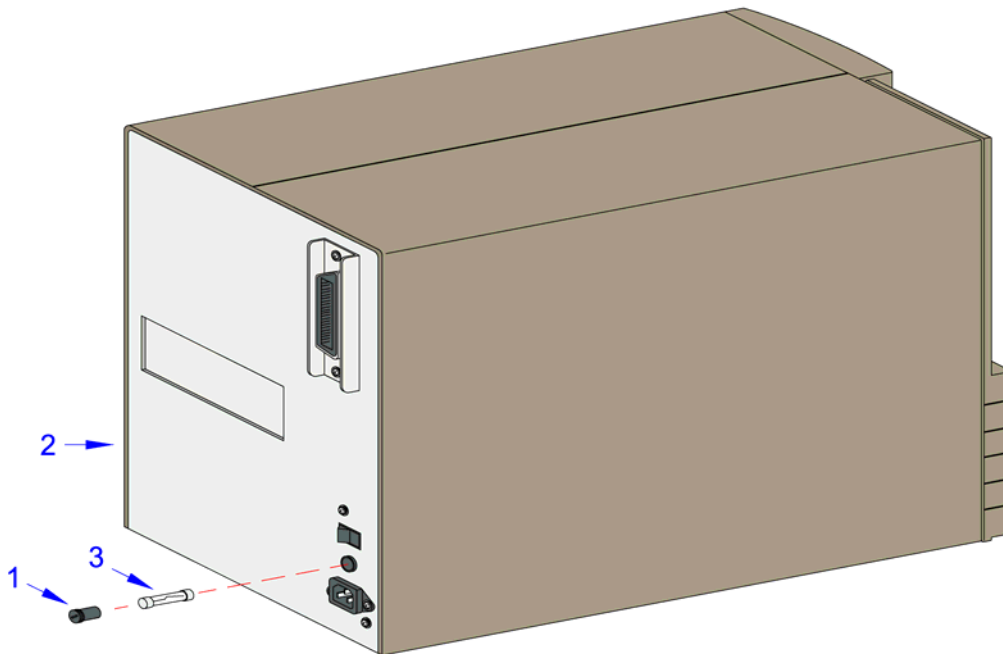

Figure 6-3, Fuse Replacement
2. Unscrew fuse cap (1, Figure 6-3) from fuse cylinder (2) located on rear housing cover (3).
3. Withdraw damaged fuse (4) from fuse cap (1) and insert replacement fuse (4) in its place.
4. Insert replacement fuse (4) into fuse cylinder (2) and screw on cap (1).